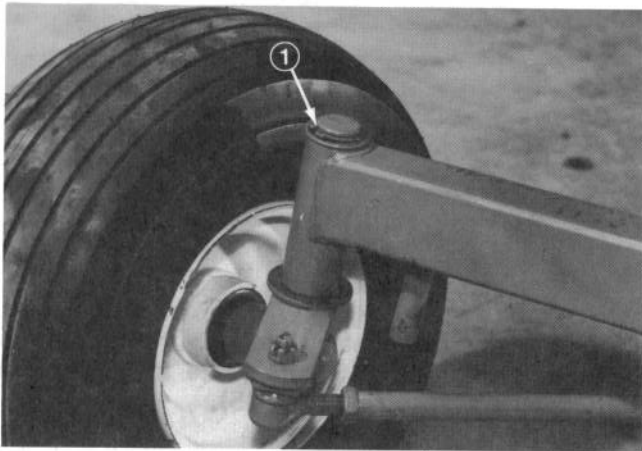

Figure 47
6. Remove cotter pin and slotted nut connecting tie rod end to spindle bracket (Fig. 47). Separate tie rod end from spindle bracket.
7. Remove snap ring and thrust washer holding spindle in axle tube (Fig. 47). Slide spindle and wheel assembly out of the axle tube to expose the bushings. Make sure to account for the thrust washer on bottom of axle tube.